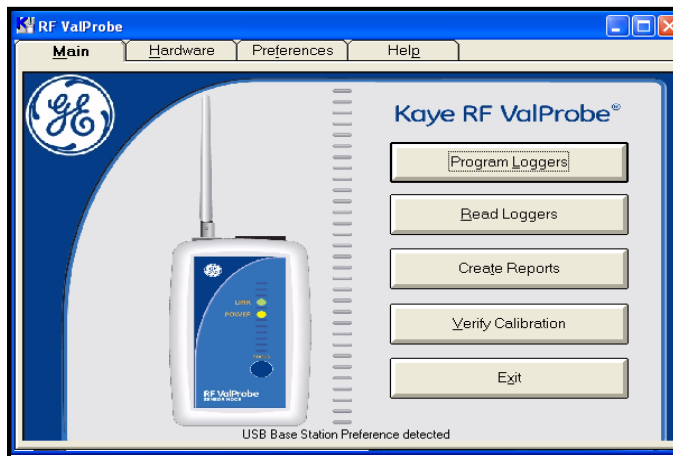

Figure 14: Kaye RF ValProbe Main Menu
3. On the **File** menu, click **Exit** to log out of the Password Maintenance utility. The RF ValProbe Main Menu appears, as shown in Figure 14 below.